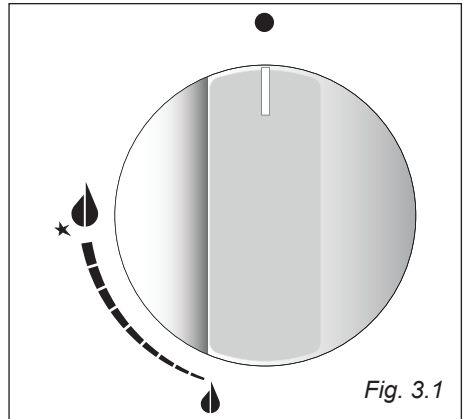
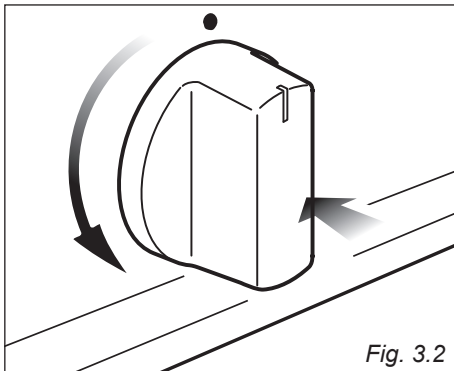

Fig. 3.1
Fig. 3.2
- Unhook the terminal board cover by inserting a screwdriver into the two hooks "A" (fig. 3.2).
Gas flow to the burners is adjusted by turning the knobs (illustrated in figs. 3.1) which control the safety valves.
1. Press in the corresponding knob and turn counter-clockwise (fig. 3.2) to the full flame position marked by the  symbol (fig. 3.1); hold the knob in until the flame has been lit.